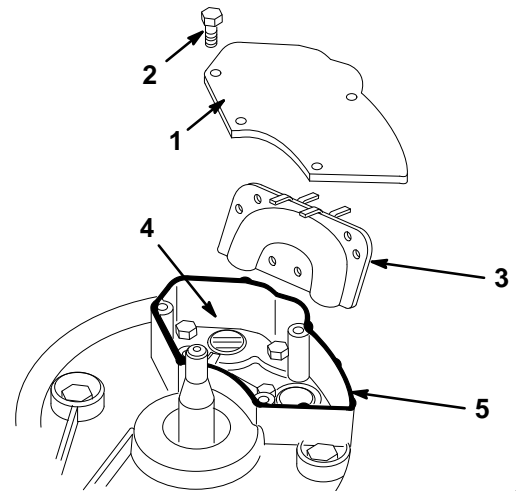

Figure 33
- Remove the four capscrews attaching the cover plate to the engine mounting plate (Fig. 33).
- Remove the transfer pipe (Fig. 33).
- Rotate the crankshaft slowly until the piston covers the exhaust port (Fig. 33).
12. Wipe the bottom of the cover plate and the edge of the engine mounting plate where the sealant will go with a clean cloth to remove any dirt (Fig. 33).
13. Run a bead of high temperature, automotive silicone sealant along the edge of the engine mounting plate where the cover plate will rest (Fig. 33).
14. Install the transfer pipe and cover plate (Fig. 33), torquing the four capscrews to 75 in-lbs. (8.5 N·m).